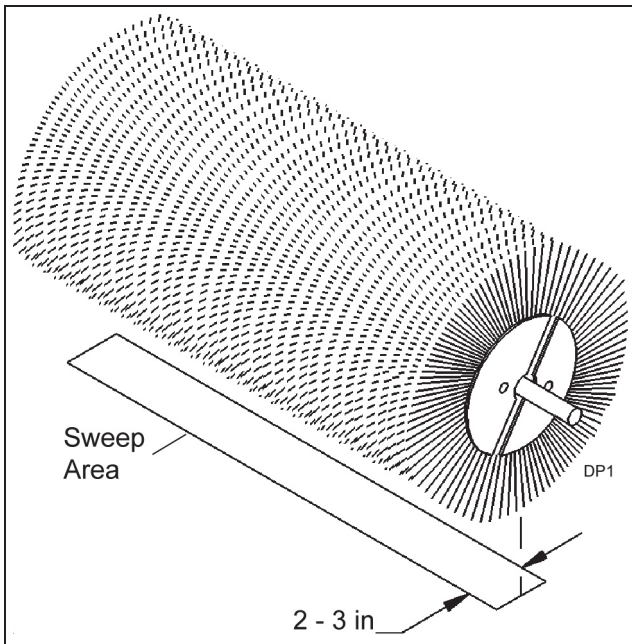

Figure 7. Brush Pattern
3. The brush pattern left in the dust should be two to three inches wide, running the length of the brush. Compare the swept area with Figure 7.